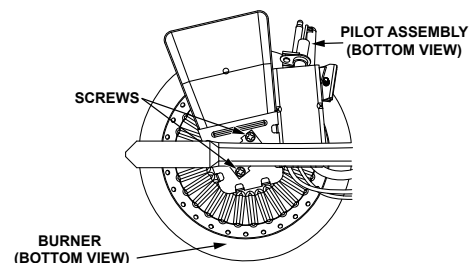

FIGURE 24.
1. Take off the burner by removing the two (2) screws located underneath the burner.
2. Check the burner to see if it is dirty or clogged. The burner may be cleaned with soap and hot water (Figure 24). **IMPORTANT: DO NOT remove the orifice.**
2. Remove the burner to access the pilot/thermopile assembly. Remove and keep the screws securing the burner to the manifold (Figure 24). **IMPORTANT: DO NOT** remove the orifice.
8. Using the pilot screw removed earlier, attach the new pilot/thermopile assembly. Reattach the burner to the manifold using the screws removed earlier. **NOTE:** Make sure the burner scoop is oriented to the pilot side of the manifold tube (Figure 24).